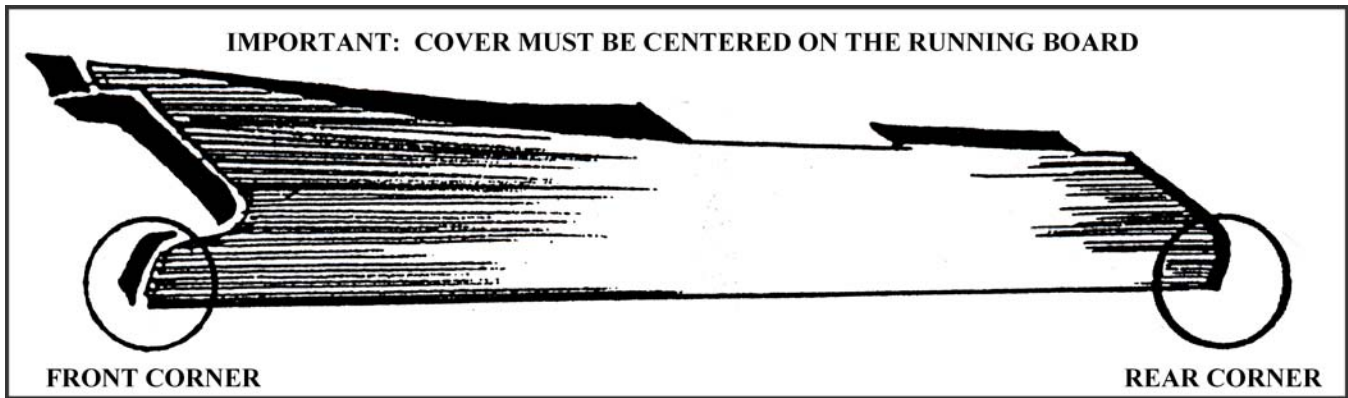

Figure 2
- (5) Using paint thinner and a cloth, carefully remove grease and wax from the underside of the cover. Do not forget to clean the front catch lip and fender flange lips.
- (6) Rough up underside of rubber cover with sand paper or steel wool. This will make the glue stick better to the cover.
- (7) Before applying glue, place rubber cover on steel board to set up proper alignment. Starting with the front and rear corners (**SEE FIGURE 2**) hook catch lip over entire edge of steel board. The cover must be centered on the board to prevent stretching the rubber on either end.